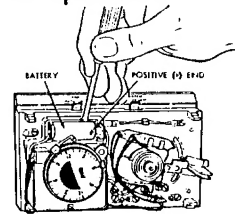

Figure 8. Battery replacement.
1. Use a small screwdriver to pry the battery out (see fig. 8).